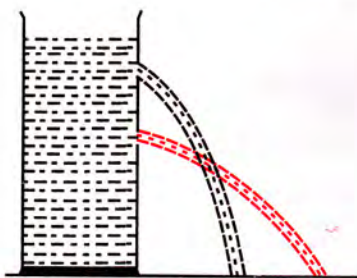

Fig. 4.2 Liquid pressure increases with increase of depth below the free surface
- (1) The liquid spurts out through each hole. This shows that the liquid exerts pressure at each point on the wall of the vessel.
- (2) If we put our finger on any of the hole, finger feels a thrust due to liquid. This demonstrates that the liquid contained in the vessel exerts thrust at all points below its free surface. Thrust on unit area at a point gives the pressure due to liquid at that point.
- (3) If we note the distance from the bottom of the vessel to the point where the liquid from a hole strikes on the horizontal surface, it is noticed that as the depth of the hole below the free surface of liquid increases, the throw of liquid also increases i.e., the liquid reaches to a greater distance on the horizontal surface. This shows that liquid pressure at a point increases with the increase of depth of point from its free surface (Fig. 4.2).